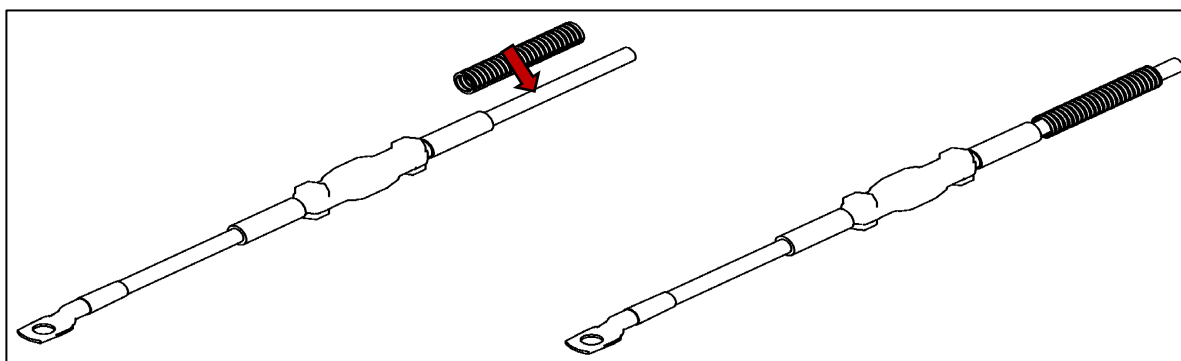

Fig. 17
- Insert the positive cable (25 mm² red) ("power unit cable") for the power supply into a length of slit corrugated tubing (see Fig. 17).